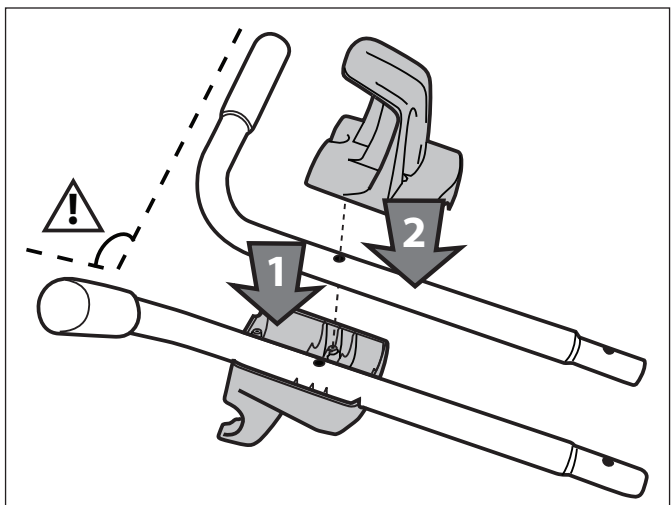

Figure 2. Install Hooks on the Upper Handles
1. Position the power cable hook and control unit hook on the upper tubes as shown in Figure 2. Make sure the upper tubes (handles) are in the proper orientation.